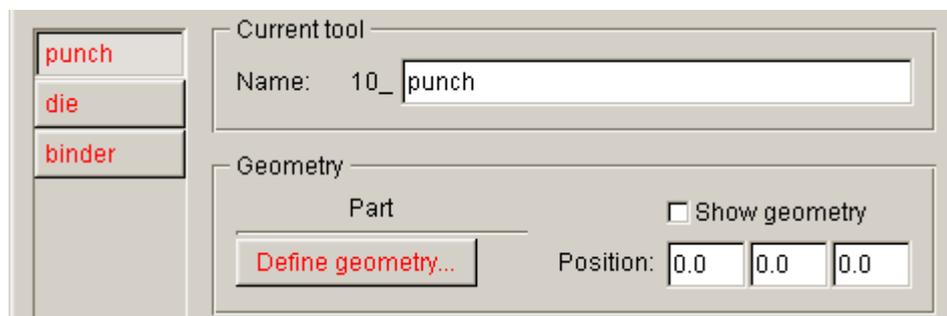

Figure 2.21 Punch definition
4. In **punch** interface, click **Define geometry...** button to assign a part as punch. See Figure 2.21.